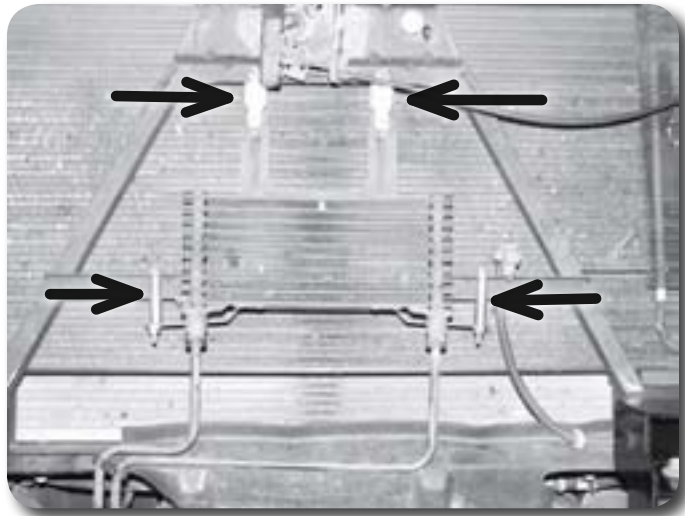

Figure 24
46. Position the provided 2" oil cooler spacer sleeves between the two bottom oil cooler mounting tabs and the original mount on the core support **Figure 24**. Fasten the spacers and cooler to the core support with $\frac{1}{4}$ " x 3" bolts, nuts and $\frac{1}{4}$ " USS washers. Torque to 15 ft-lbs.
47. Mount the cooler lines back in the plastic retaining clip and the bottom of the core support **Figure 24**.